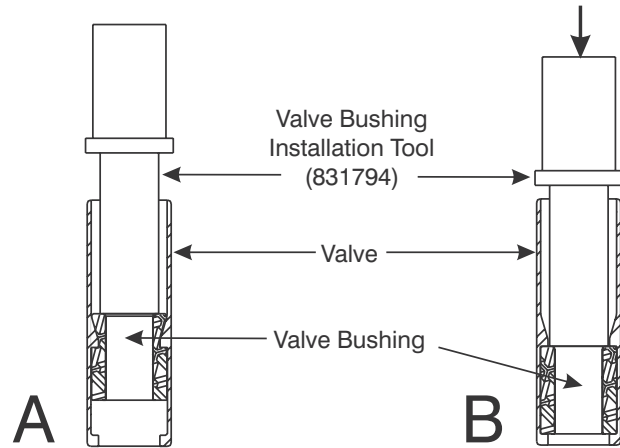

Figure 9-14. Seat Valve Bushing in Valve.
6. Remove the Bushing Installation Tool 831794 from the Valve. Insert the small diameter end of the tool into the large bore end of the Valve. Center it over the Bushing. See Figure 9-14-A.
7. Press the Valve Bushing (6) into the Valve (3) until the Bushing is seated between the internal and external shoulders of the Valve. See Figure 9-14-B.